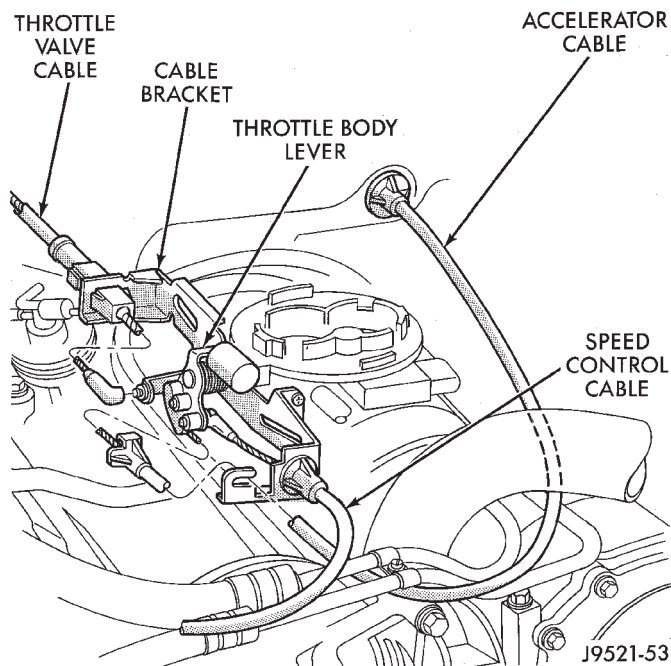

Fig. 255 Throttle Valve Cable Attachment —At Engine
The transmission throttle valve is operated by a cam on the valve body throttle lever. The throttle lever is actuated by a cable connected to the engine throttle body lever (Fig. 255). A retaining clip at the engine-end of the cable is removed to provide for cable adjustment. The retaining clip is then installed back onto the throttle valve cable to lock in the adjustment.
- (1) Turn ignition key to OFF position.
- (2) Remove air cleaner.
- (3) Verify that throttle body lever is at curb idle position. Then verify that transmission throttle lever (Fig. 255) is also at idle (full forward) position.
- (4) Slide cable off attachment stud on throttle body lever (Fig. 255).
- (5) Compare position of cable end to attachment stud on throttle body lever:
- (6) Reconnect cable end to attachment stud. Then with aid of a helper, observe movement of transmission throttle lever and lever on throttle body.